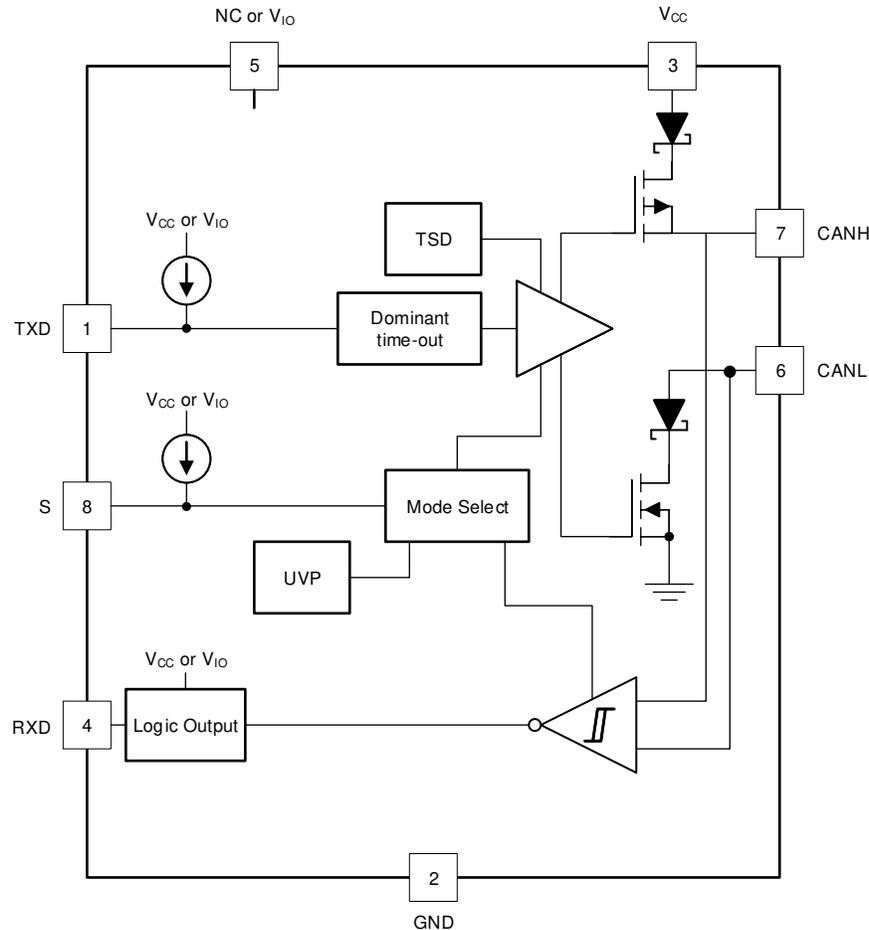

Figure 1-1. TCAN1057A-Q1 and TCAN1057AV-Q1 Functional Block Diagram
Figure 1-1 shows the device functional block diagram for reference. TCAN1057AV-Q1 has the V_{IO} input at pin 5, while TCAN1057A-Q1 has a no connect (NC) at pin 5.